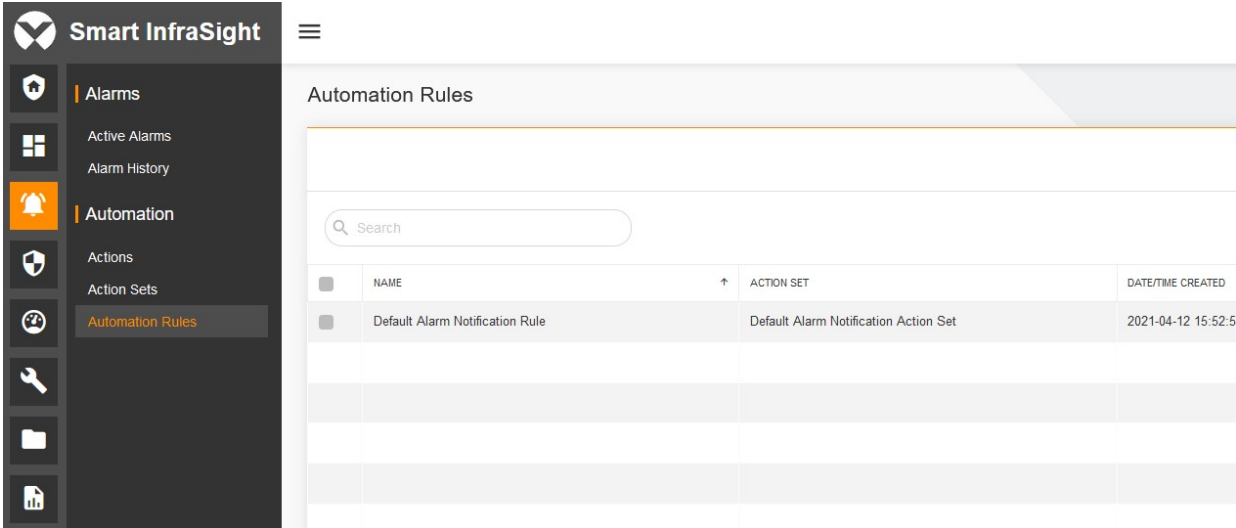

Figure 16-10 Automation Rules page
1. On Smart InfraSight, choose **Alarms > Automation > Automation Rules**. The **Automation Rules** page is displayed by default, as shown in Figure 16-10.